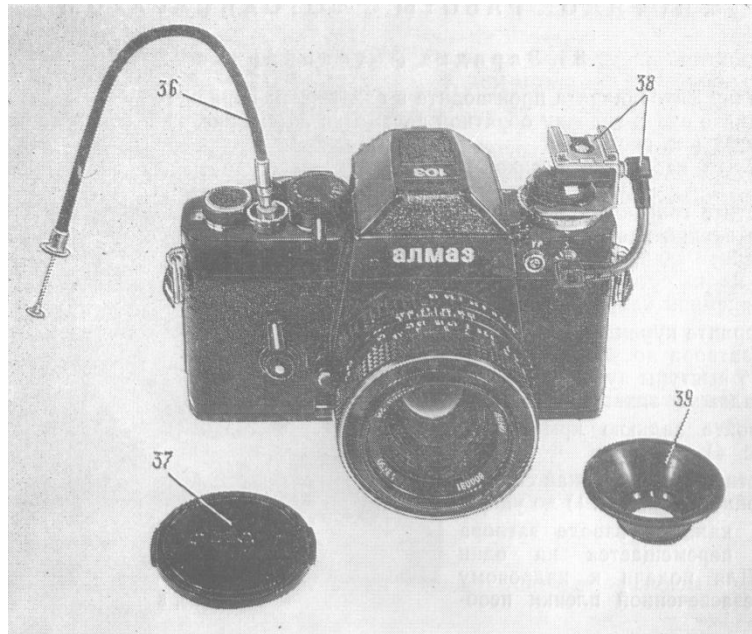

Figure 9
When using a flashes with cable-free connection, it is necessary to mount the holder (38) (see fig. 9) which plug connected to a corresponding jack of the camera according to type of used flash.